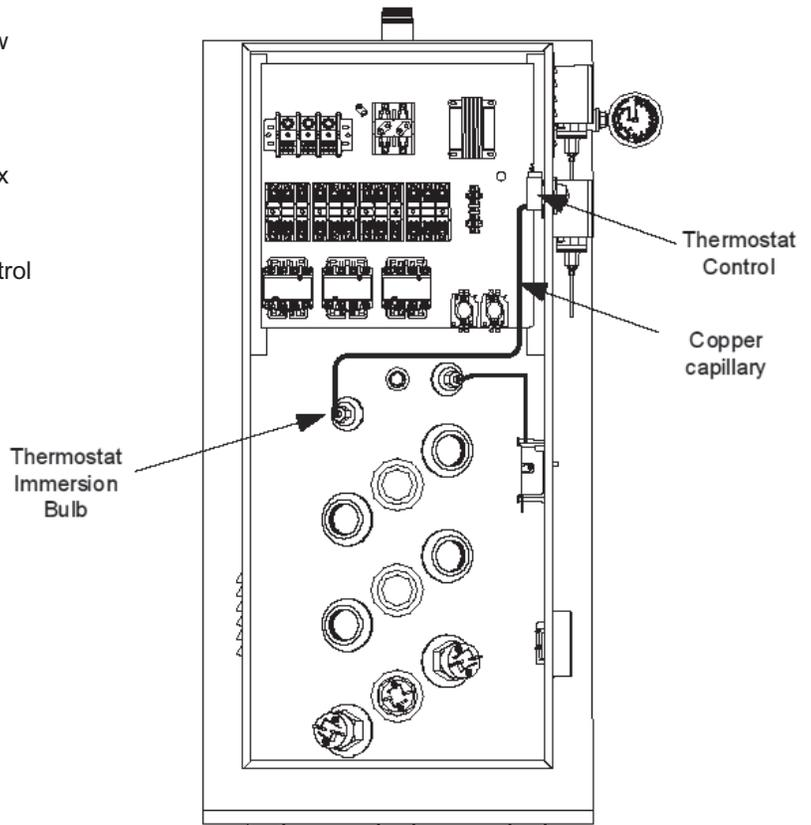

Figure 10
3. Turn off cold water supply to heater. Connect hose to drain spigot of water heater and route to an open drain. Open a nearby hot water faucet to vent heater for draining. Open drain spigot of water heater and allow heater to drain to a point below the Immersion bulb location (see Figure 10 for location).
5. Locate thermostat control inside lower control box mounted to the right inside surface of the control box (see Figure 10).